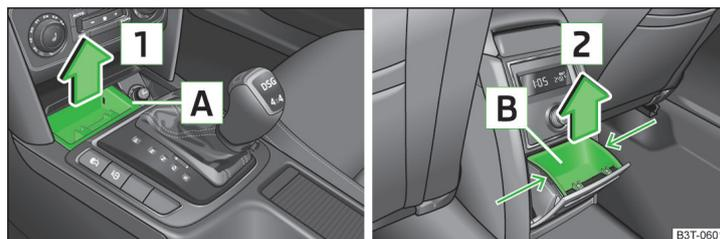

Fig. 86 Centre console: Ashtray at the front/rear
- Grasp the ashtray insert in the area **A** » Fig. 86 and remove it in the direction of the arrow **1**.
- Grasp the ashtray insert **B** » Fig. 86 in the area marked with the arrows and remove it in the direction of the arrow **2**.